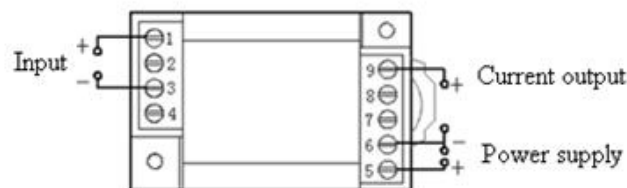

Figure 5, wiring diagram of CE-F01-4 * MS2 / CE-F01-5 * MS2
- ① Fix the transducer on the side of the card slot and hook on the mounting rail;
- ② Pull the spring pin down;
- ③ Clip the transducer mount on the mounting rail;
- ④ Release the spring pin and clip the transmitter on the mounting rail.
- ① 4mm diameter hole in the fixed plate according to the screw hole position shown in Fig. 5;
- ② Use the screw $\Phi 3$ to insert into hole and secure it.